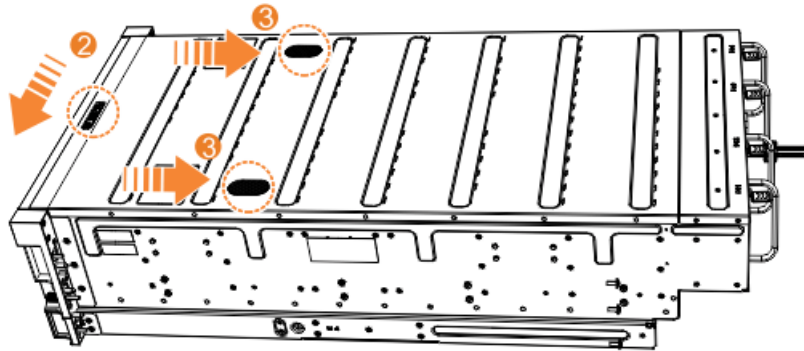

Figure 36. Replacing the top cover
2. Push the cover release lever to the side (2) as shown in Figure 36 on page 54.
3. Slide the cover towards the back of the enclosure (3) back until it stops, as shown in Figure 36 on page 54.